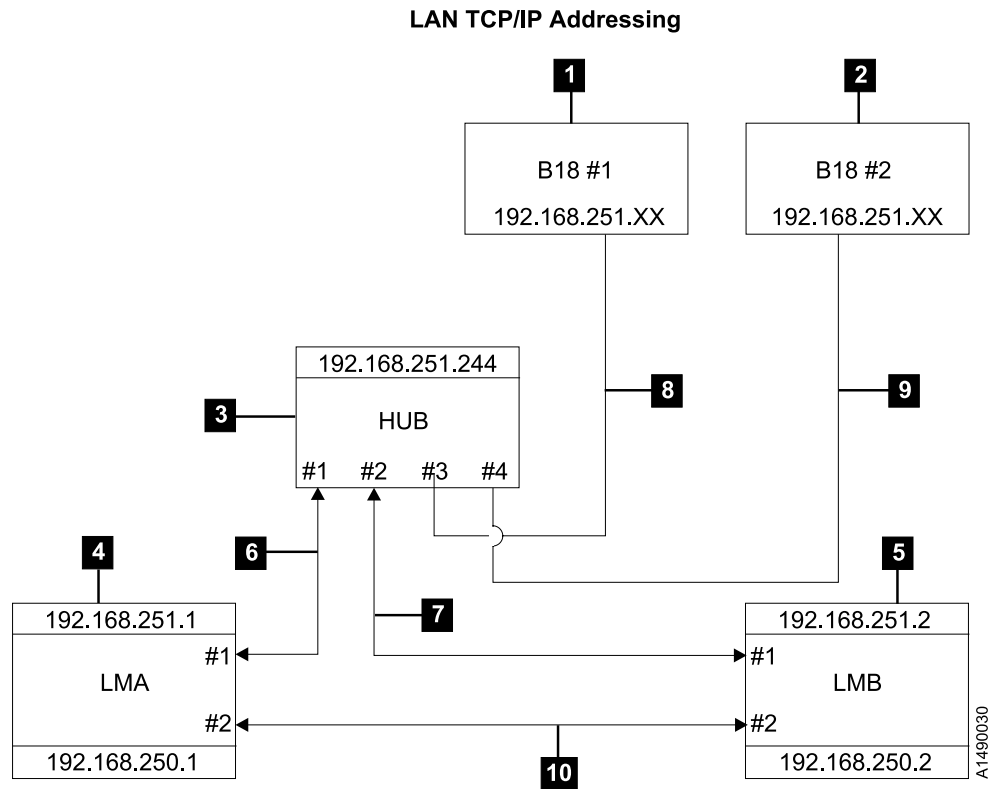

Figure 168. RS/6000 LAN TCPIP (TELNET) Addresses and Cable Layout
3. Figure 168 on page 417, is a flow of the address and cabling scheme for the LAN setup for the Axx. If an error occurs use Figure 168 on page 417 to help to isolate the problem.
4. The following list refers to Figure 168.